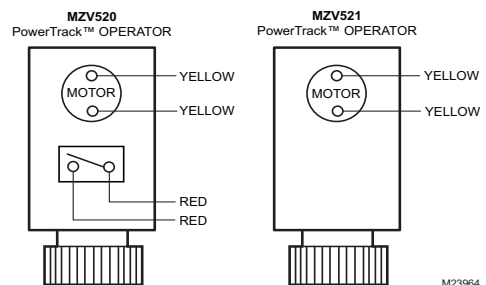

Fig. 3. Wiring Diagram (No Switch or Switch not used).
4. Connect electrical leads per wiring diagram (Refer to Figures. 3, 4, 5 and 6).